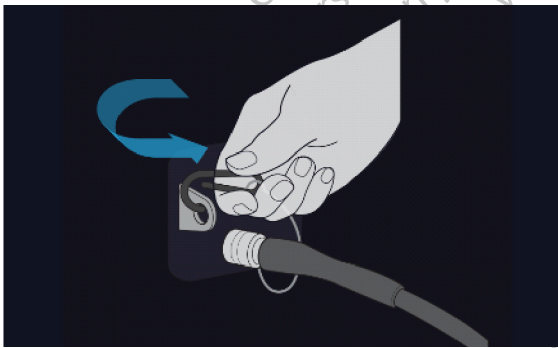

Figure 9. Attach Safety Cable to Console
3. Secure the safety cable at the end of the gas supply line to safety clip on the Console (see Figure 9).